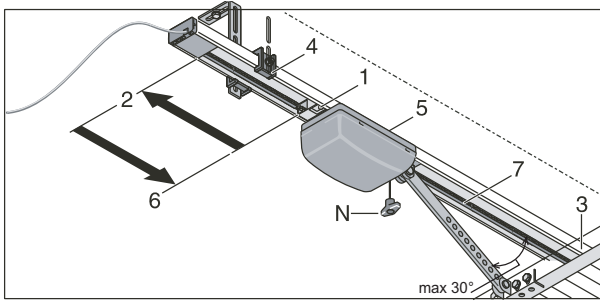

Fig. 20
Fig. 20 Move the limit switch (1) up to point (2), that is to say all the way back. Open the door (3) manually from the side. Once open it is possible to adjust the open limit switch.